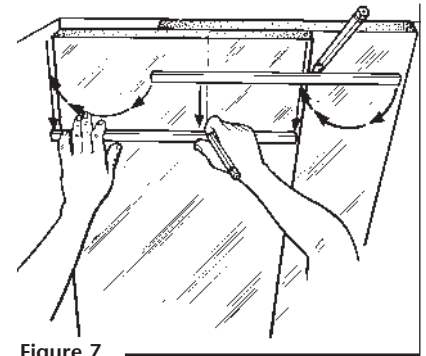

Figure 7
1. Position insulation board squarely against corner, overlapping the inside edge of the last board installed (Figure 7).